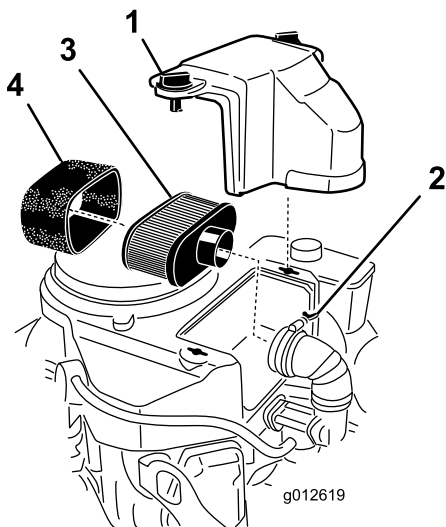

Figure 14
3. Clean the area around the air cleaner to prevent dirt from entering the engine and causing damage (Figure 14).
4. Unscrew the cover knobs and remove the air-cleaner cover (Figure 14).
5. Unscrew the hose clamp and remove the air-cleaner assembly (Figure 14).
6. Carefully pull the foam element off the paper element (Figure 14).
Important: Do not clean the paper filter, replace it (Figure 14).
1. Carefully slide the foam element on to the paper air-cleaner element (Figure 14).
2. Place the air-cleaner assembly onto the air cleaner base and secure it with the 2 wing nuts (Figure 14).
3. Place the air-cleaner cover into position and tighten the cover knob (Figure 14).